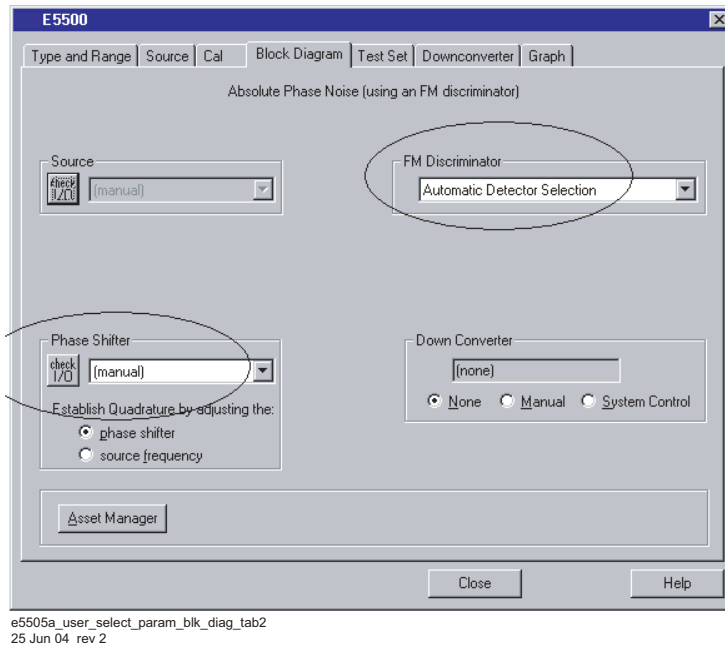

Figure 186 Select parameters in the block diagram tab
- b** From the **Phase Detector** pull-down, select **Automatic Detector Selection**. See Figure 186 on page 256.